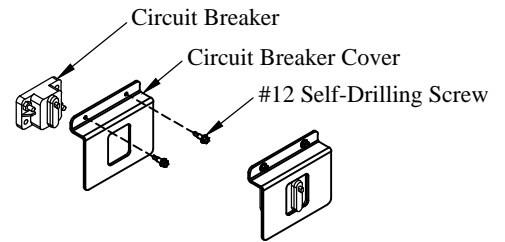

Figure 14: Circuit breaker cover.
14. **Install** the plastic circuit breaker cover over the circuit breaker using the supplied #12 self-drilling screws (Figure 14).